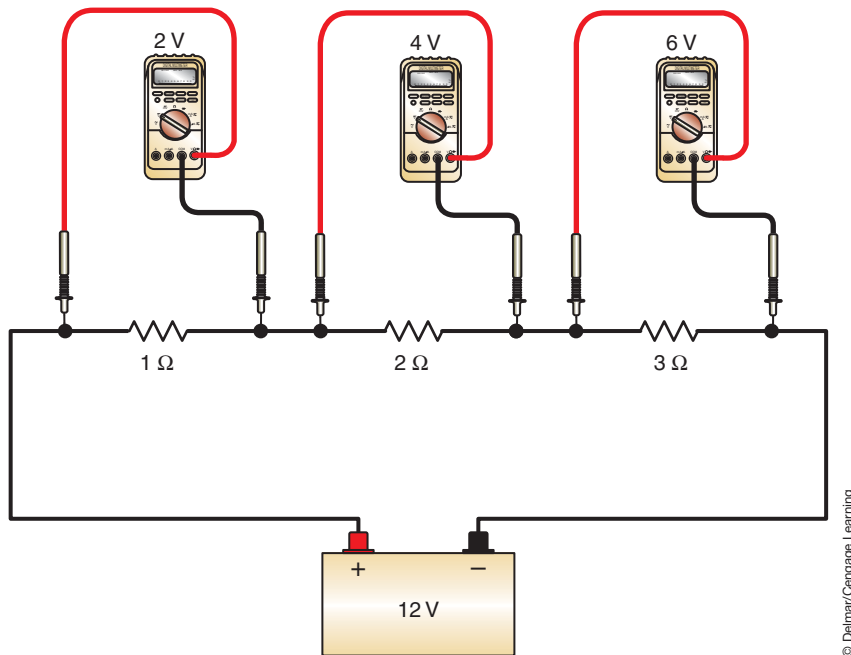

FIGURE 2-20 The voltage drop across each resistor in series will be different if the resistance values of each are different.
3. The voltage drop across each resistance will be different if the resistance values are different (Figure 2-20).